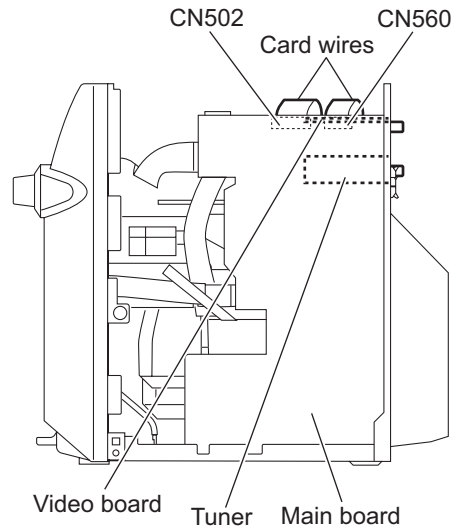

Fig.8
### 3.1.3 Removing the tuner (See Figs.8, 9)
- (1) From the right side of the main body, disconnect the card wire from the connector CN560 on the main board. (See Fig.8.)
### 3.1.4 Removing the video board (See Figs.8, 9)
- (1) From the right side of the main body, disconnect the card wire from the connector CN502 on the main board. (See Fig.8.)